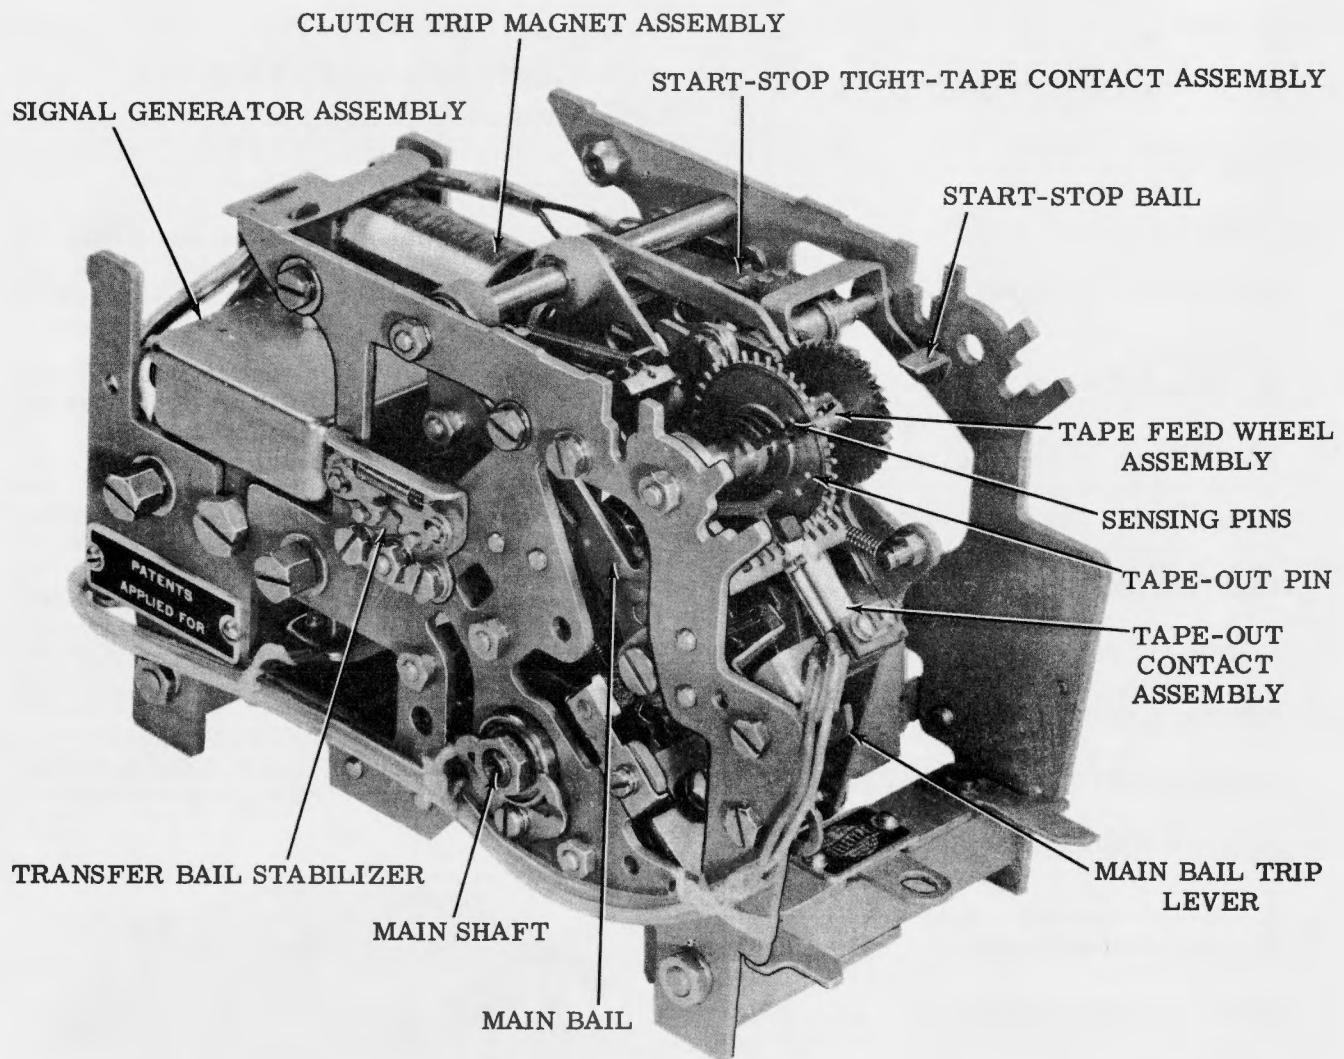

Figure 2 - Transmitter Distributor Unit (Cover Plate, Top Plate and Tape Guideplate Removed)
2.01 The basic operation of the transmitter distributor is to mechanically sense perforated tape and transfer the information to the signal generator, which performs the actual signal transmission (Figure 2).
- (a) The tape sensing mechanism which consists of a bank of sensing pins, (5 or 6 depending on the code level) each with its corresponding transfer lever and latch lever (Figures 2 and 3).
- (b) The main shaft assembly, (Figures 2 and 3) which is centrally located in the lower portion of the unit, has the outer race of each
(d) A tape-out pin (Figure 2), located to the right of the sensing pins, stops transmission if there is no tape in the sensing head (Figure 5).